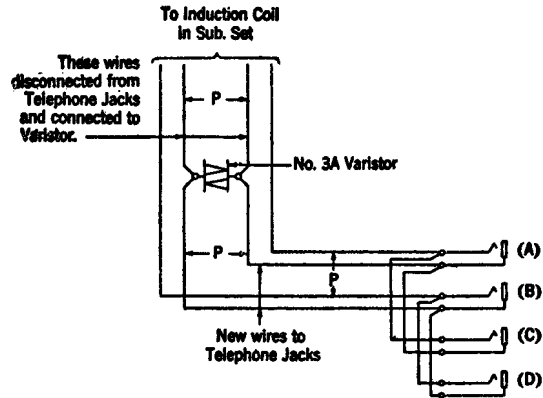

Fig. 10 - Connections for No. 3 Order Turret
3.21 Connect the leads to the varistor and telephone jacks as indicated by Fig. 10.